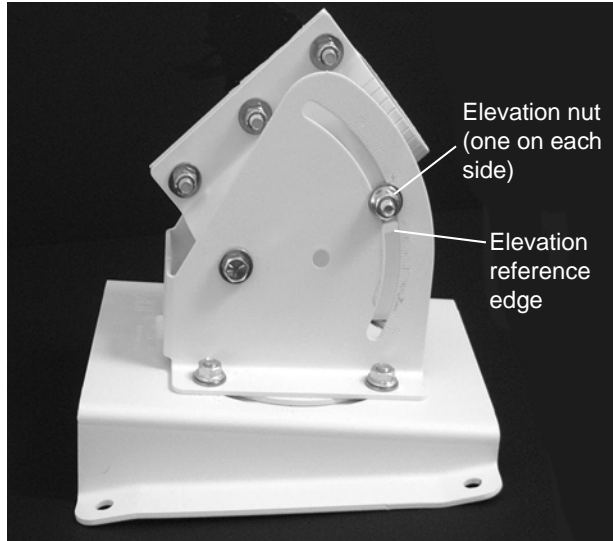

Figure 14: Locating the elevation reference edge
3. Use a 1/2-in. socket wrench or open-end wrench to loosen the two elevation nuts. See Figure 14.
4. Locate the elevation reference edge on the elevation scale on the right side of the cap assembly. See Figures 14 and 15.